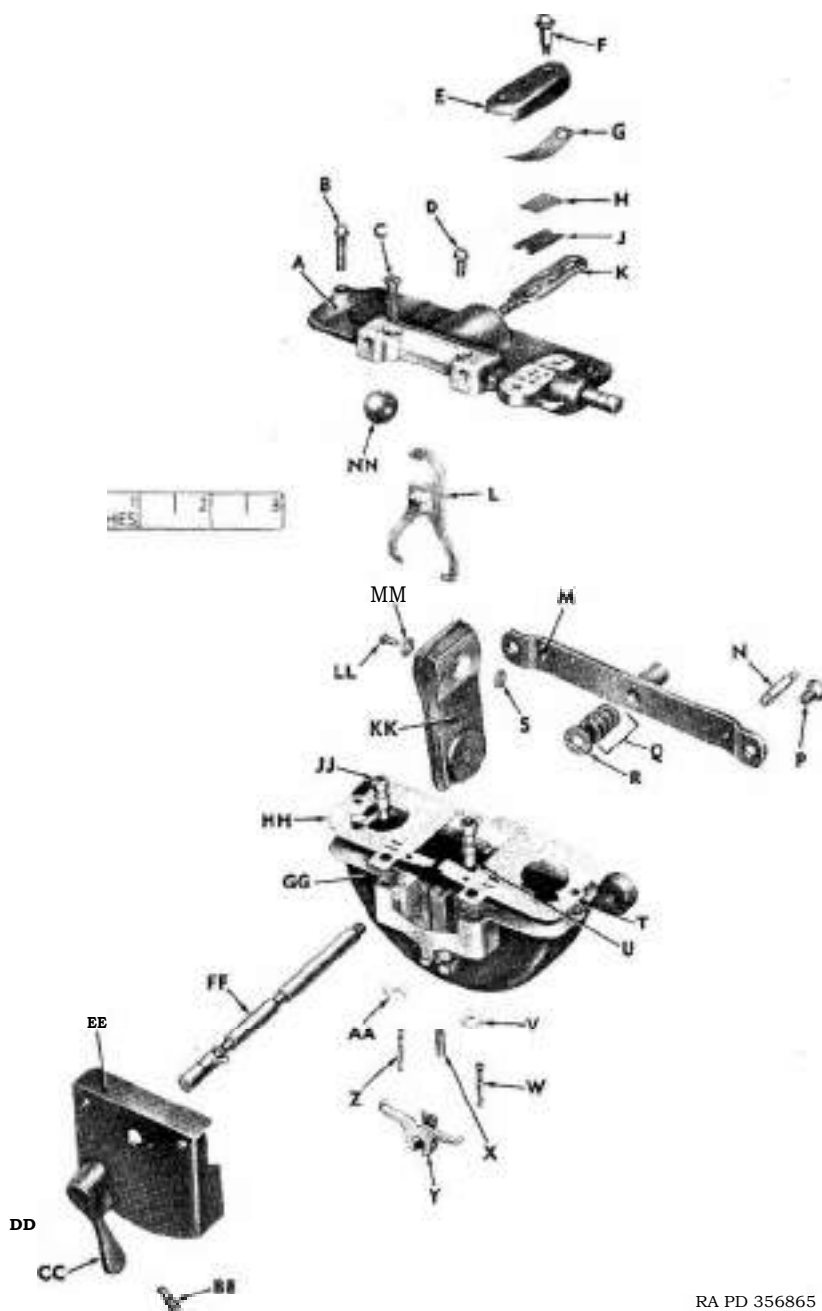

Figure 192. Windshield wiper motor assembly—exploded view.
Note. The key letters noted in parentheses are in figure 192, except where otherwise indicated.
Note. The key letters noted in parentheses are in figure 192, except where otherwise indicated,
a. General. When a windshield wiper motor assembly is disassembled for rebuild, the entire contents of the repair kit 7735526 must be installed. These parts are indicated in the nomenclature list for figure 192.
- (1) Swing new paddle plate assembly (KK) open and pack interior with Trico wiper lubricant and close paddle plates.
- (2) Hold paddle plate assembly (KK) with parking lift pad (*fig.* 193) up and insert paddle shaft (FF) through paddle plate assembly with short end of shaft at left. Place metal washer (MM) on rivet (LL) and insert rivet through paddle plate and paddle shaft. Install other metal washer (S) and set rivet with punch and riveting block (*fig.* 193) from kit 14-K-280.